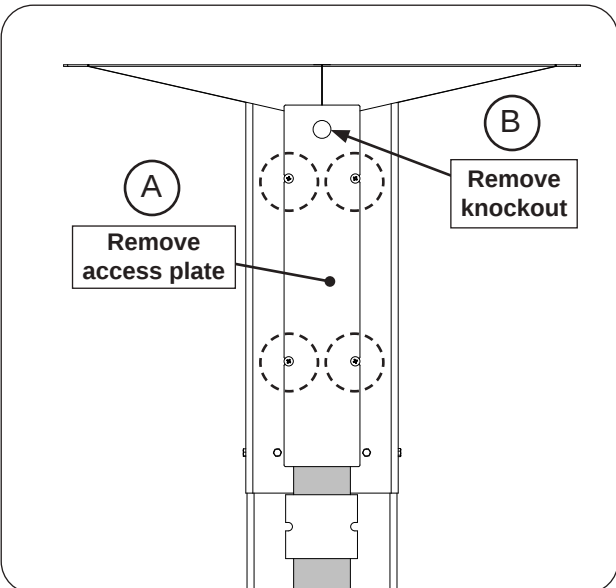

Fig. 29-2 Remove access plate and knock-out
2. Locate the rear access plate on the post base assembly and remove it by unscrewing the four Phillips-head screws. See Fig. 29-2, A.
3. Remove the knockout from the upper portion of the access plate. See Fig. 29-2, B.